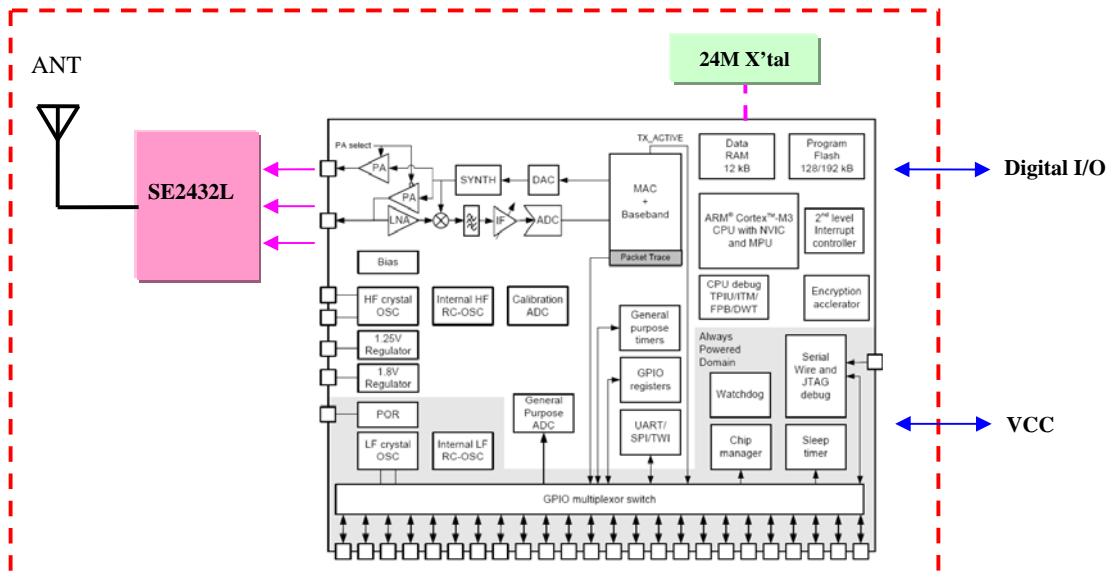

Figure 3-2: DFZM-E821x Block Diagram
- The high power module option has a capability of +18.5dBm output power at the antenna (see Figure 3-2).